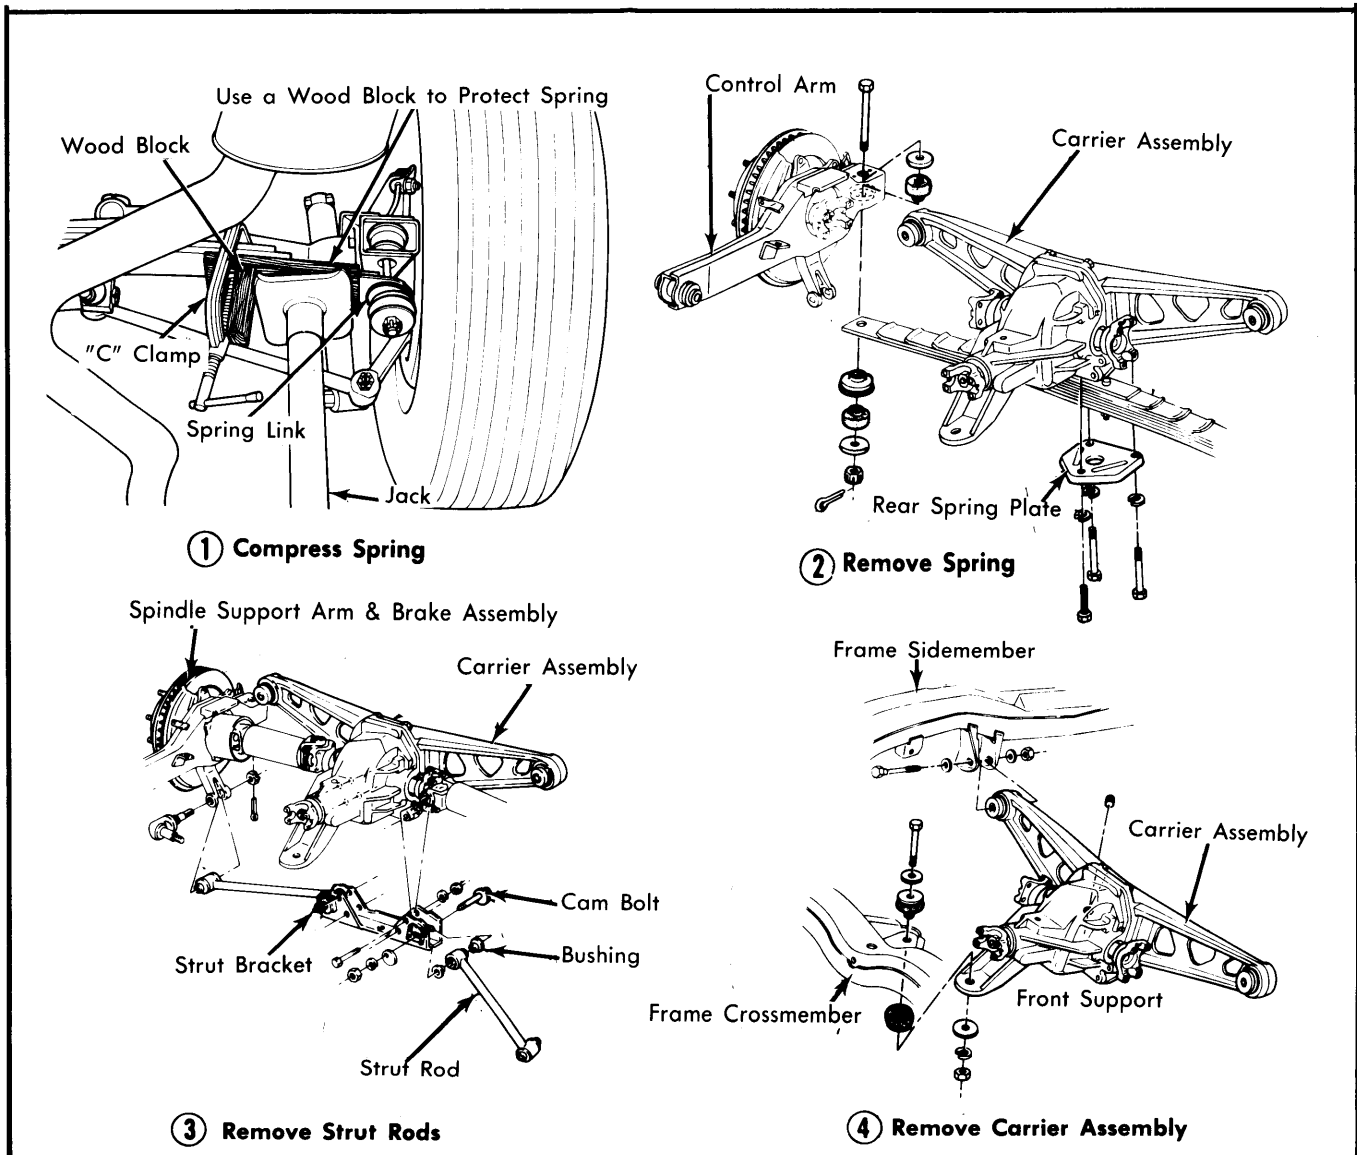

Fig. 3 Rear Axle Removal Procedure. Spring and Strut Bracket Must Be Removed Before Removing Rear Axle.
2) Using a suitable jack, "C" clamp and 2 blocks of wood, lift up on each end of spring. See Fig. 3. Disconnect spring from both control arms. Remove spring assembly from axle housing.